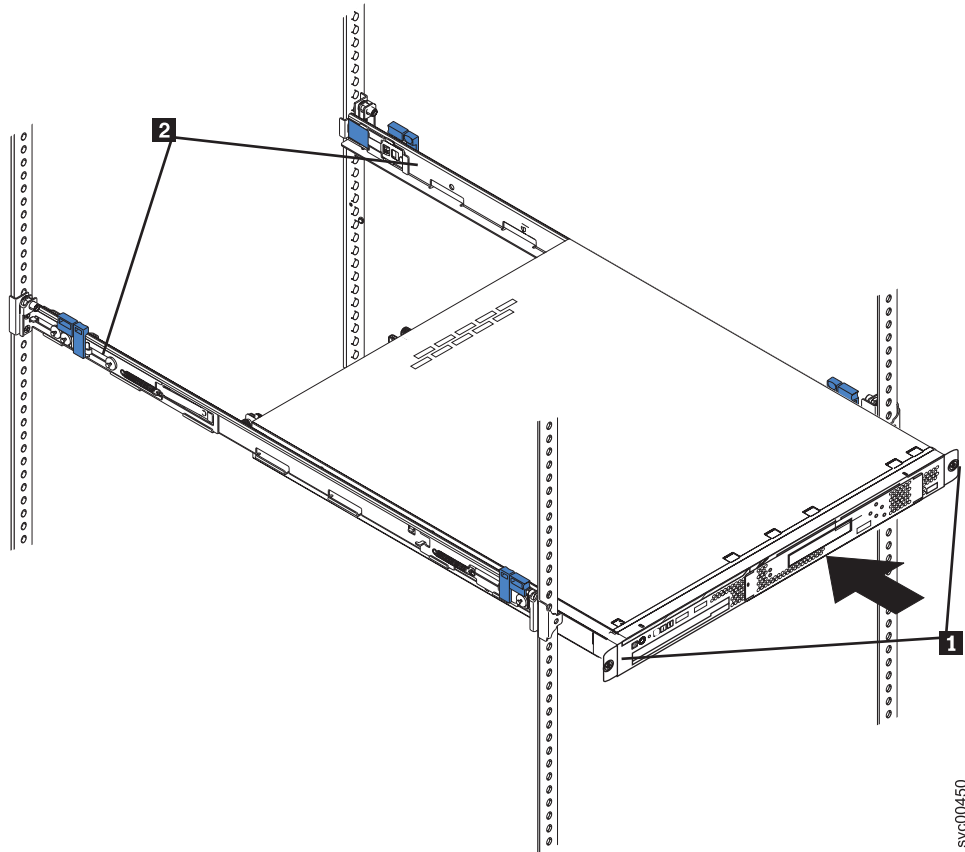

Figure 43. The captive thumbscrews that secure the node and the shipping brackets
2. Align the node on the slide rails and push the node fully into the rack. Secure the node to the front mounting flanges with the captive thumbscrews (**1** in Figure 43).